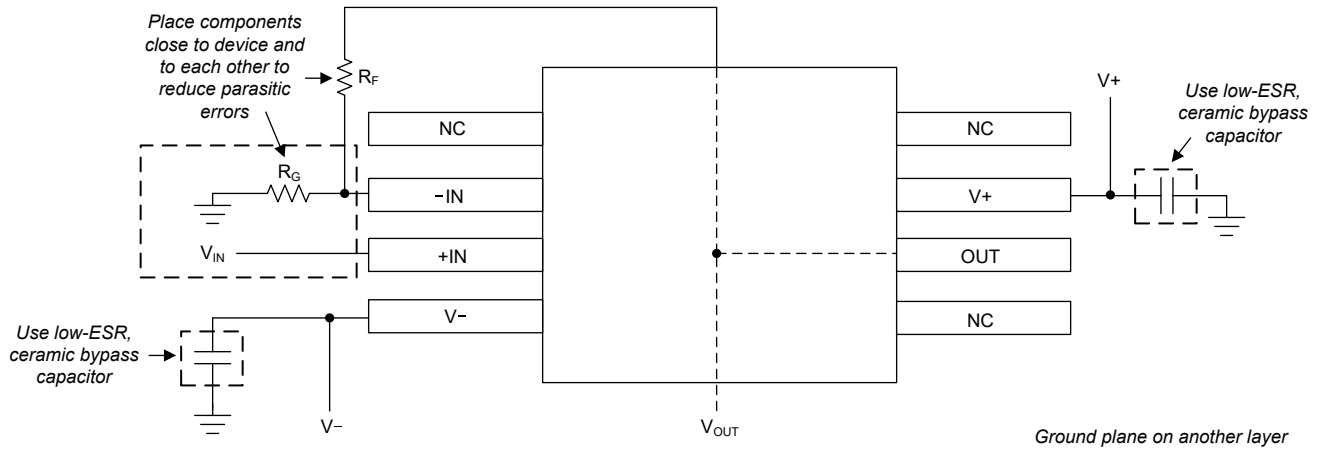

图 7-10. OPA627 Layout Example for the Noninverting Configuration
- Place the external components as close to the device as possible. As shown in 图 7-10, keeping RF and RG close to the inverting input minimizes parasitic capacitance.